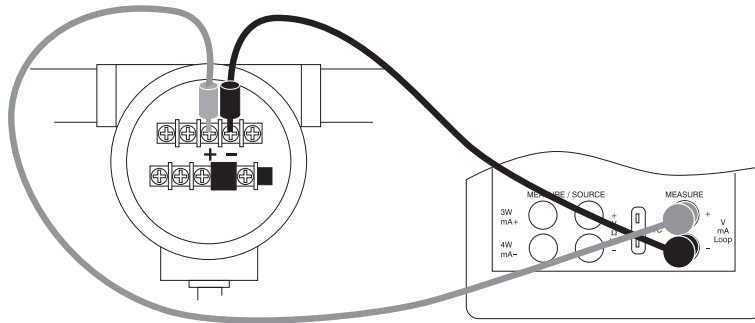

**Figure 16. Isolated Input Connection**
2. Select the desired primary parameter to be measured. Connect the leads to the isolated inputs of the calibrator, as in Figure 16.